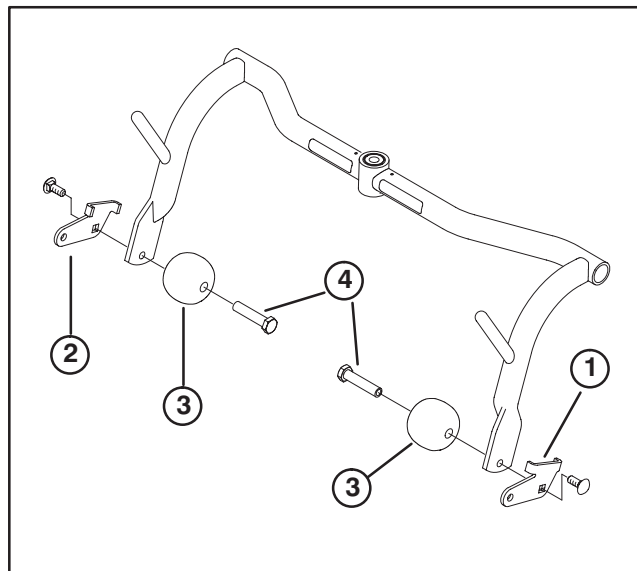

Figure 3
12. Mount appropriate link bracket (R.H. or L.H.) and an anti-scalp roller to end of each **front** carrier frame with a roller shaft and carriage screw. Position brackets as shown in figure 3.